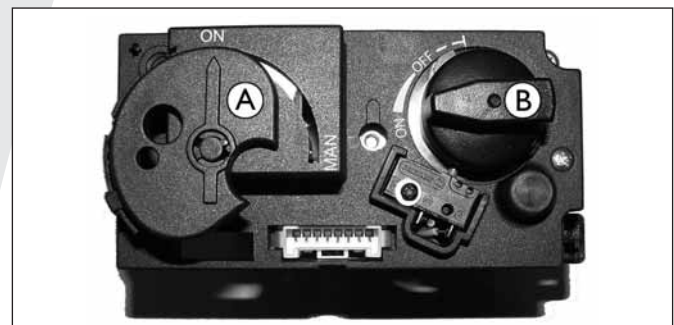

fig. 15
- During the ignition process, you are not allowed to operate control button B on the gas control manually (see fig. 15);
- Set button A on the gas control to ON (button B is controlled automatically) (see fig. 15). The gas control is located in the control box.